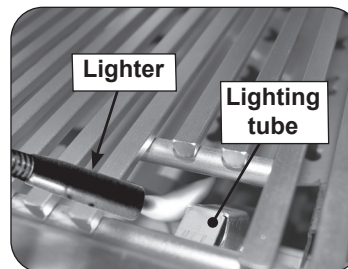
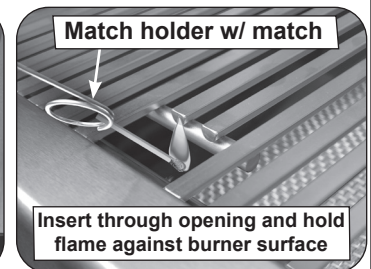

Fig. 37-2 Manual lighting via lighting tube
Fig. 37-3 Manual lighting via match holder
**CAUTION:** Always wait five (5) minutes for gas to clear after any unsuccessful lighting attempt.
2. Insert either a burning long-barrel butane lighter or a burning long-stem match through the cooking grid opening to the top of the lighting tube (see Fig. 37-2). For backburners or infrared burners, hold the flame against the surface of the backburner/infrared burner. Grills equipped with an infrared burner include a wire extension match holder (attached to drip tray) to assist with manual lighting (see Fig. 37-3).
4. If the burner does not light within five (5) seconds of turning the control knob, **immediately depress the knob and turn the valve to OFF**. **WAIT FIVE (5) MINUTES** before repeating steps 2 through 4 of the MANUAL LIGHTING instructions.